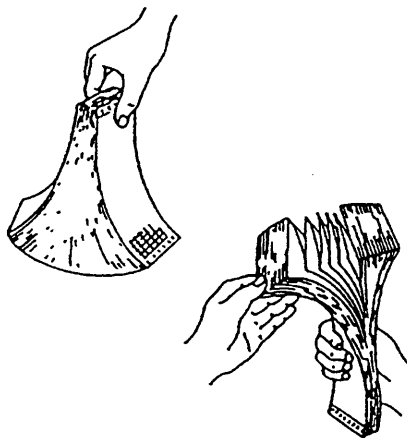

Figure 5.1 Fan Chart Paper
- (1) Thoroughly fan the chart paper from both sides before loading. (see Figure 5.1.)